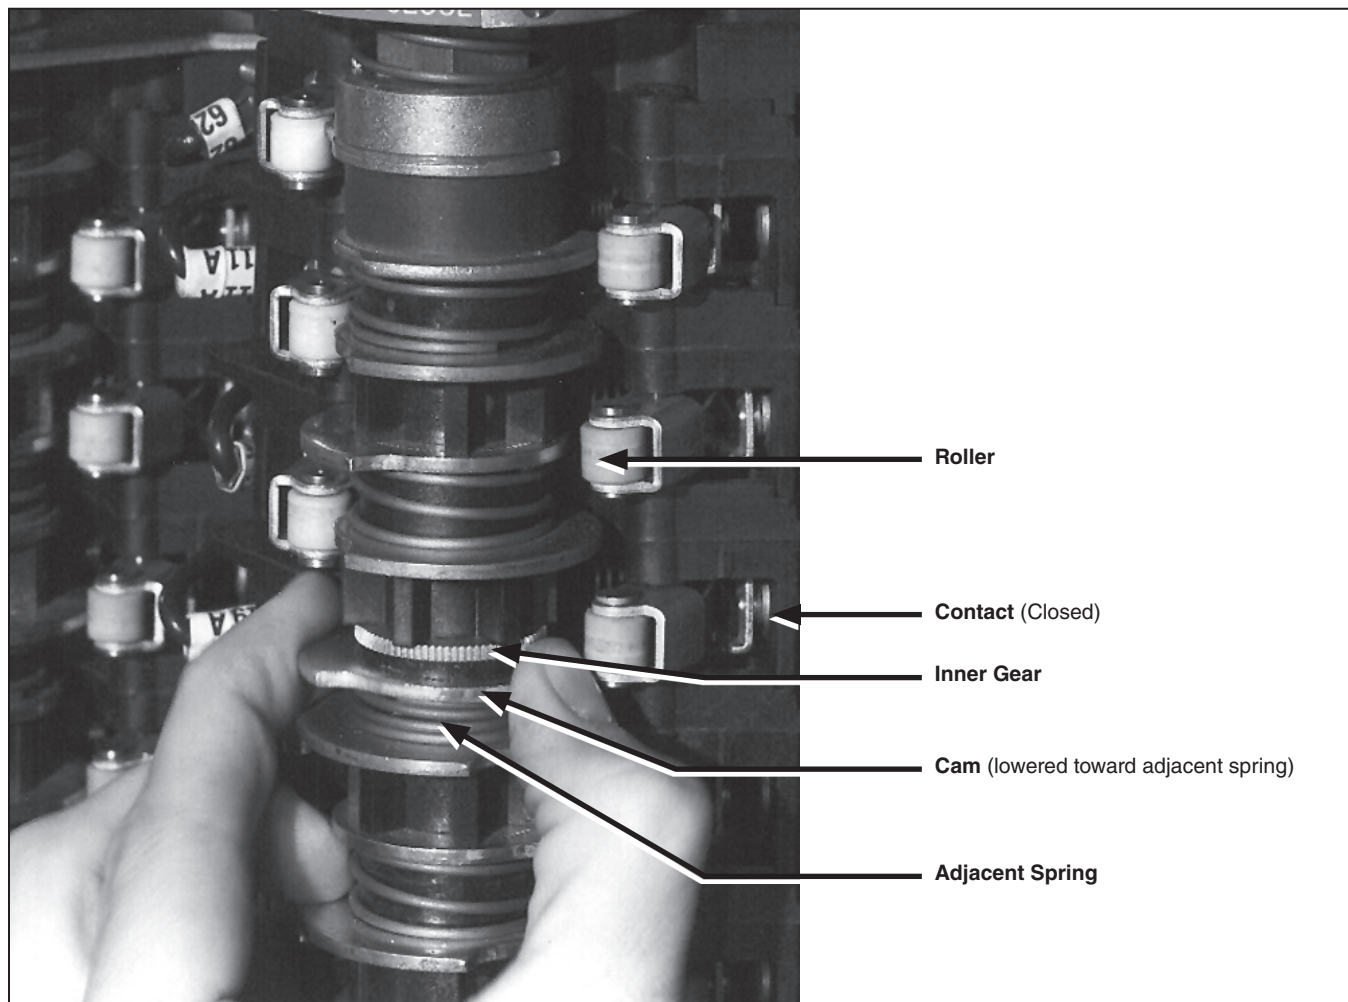

Figure 5. Adjustment of cams on auxiliary switch.
- (a) Raise (or lower) the cam toward its adjacent spring until the cam is separated from the teeth of the inner gear. See Figure 5 on page 13.